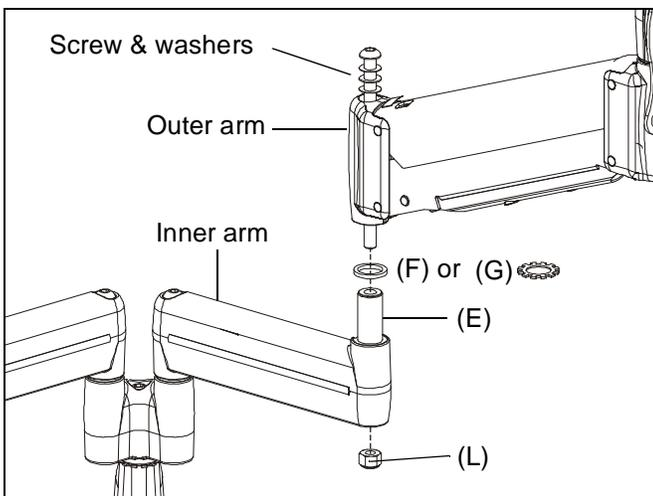

Figure 5
1. Using 3/16" hex key, loosen screw until nut can be removed (See Figure 5). Retain nut. Screw and washers may remain in outer arm.
3. Remove spacer (F) from pin (See Figure 5).
4. Install lock washer (G) on pin (See Figure 5).
5. Re-install outer arm (with screw and washers) on pin (See Figure 5).
6. Insert and hold nut in lower bore of inner arm (See Figure 5).
7. Tighten screw as required using 3/16" hex key (See Figure 5).
CAUTION: If lock washer (G) has been used to assemble arms, then forced movement of arms without loosening screw (H) will damage arm and/or Y-connector (See Figure 3)(See Figure 5).